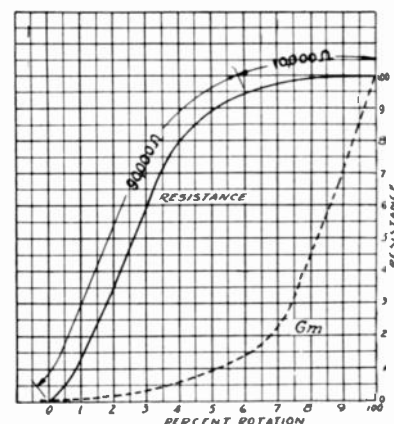

FIGURE 61
In this illustration dotted lines indicate that a portion of the control resistance may be retained to supply the minimum bias which is required by the tube at full volume. Also, the dotted lines show that one or more cathodes may be connected to the control and that there may, or may not be a bleed current through the control. For the present, we will consider that the circuit controls only one tube and does not have a bleed current. Although a triode tube is shown, this circuit is also used with tetrodes and pentodes. For the purpose of explanation, we give Figure 61, which shows the use of a 100,000 ohm Yaxley No. 2 right-hand taper control, Yaxley type UC500, with the resistance plotted against the (GM) Mutual Conductance of the tube and both curves against the rotation of the control.
The graph in Figure 61 (page 105) illustrates the use of a bias type control on a remote cut-off type of tube. In fact, a 6D6 was used in this calculation. In practice, a straight Bias type control would hardly ever be used with this tube, but rather the combination Ant.-Bias circuit in order that locals may be fully attenuated.